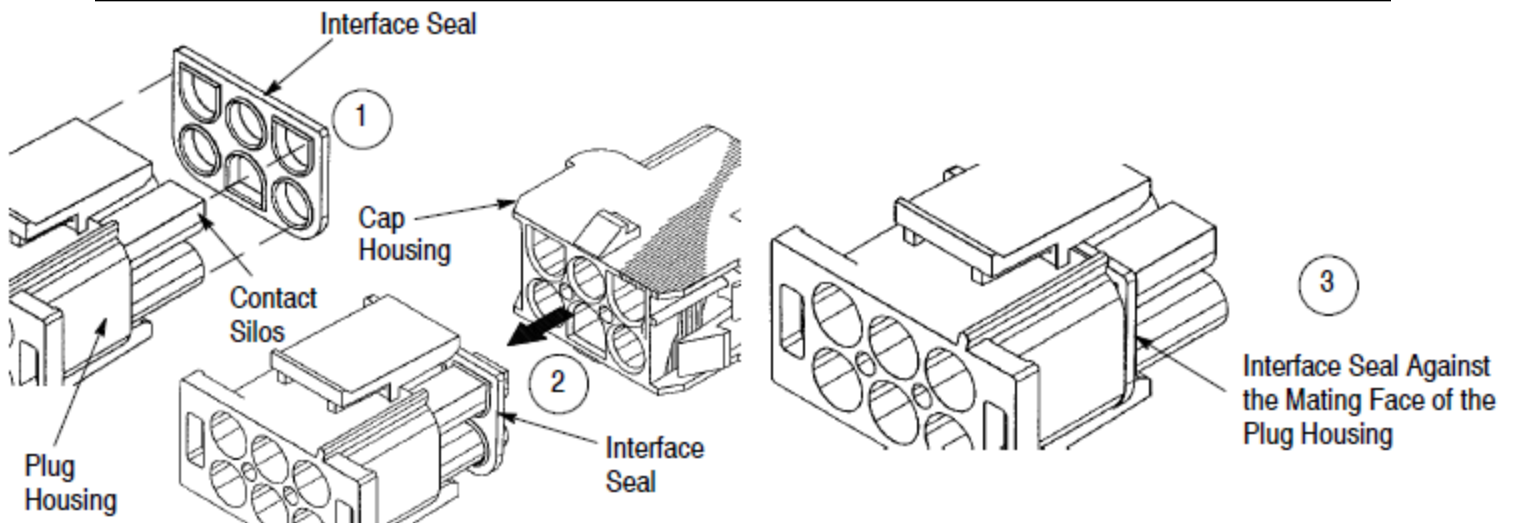

Figure 2
2. Assemble interface seal over contact silos of the plug housing as shown in Figure 2.